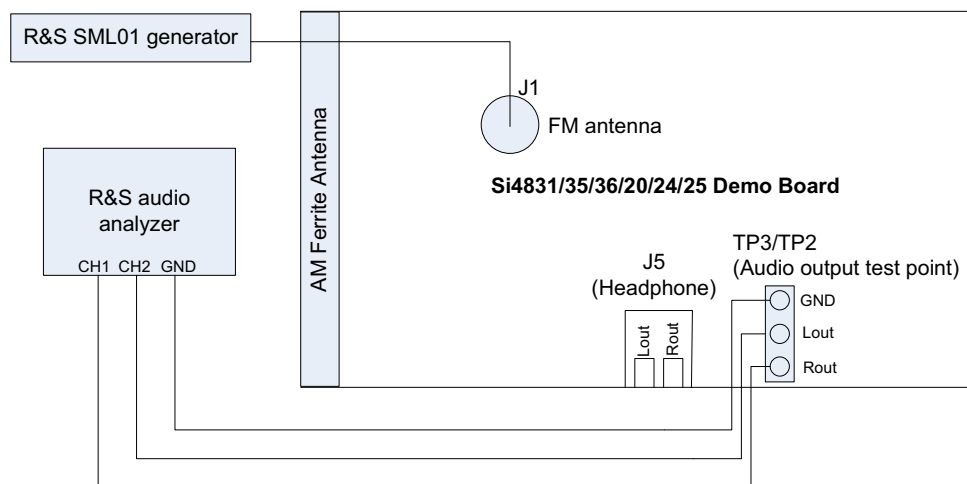

Figure 1. FM Tuner Setup with One Generator
1. Connect test equipment as shown in Figure 1.